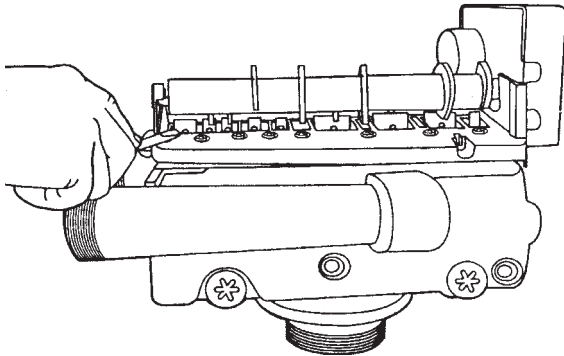

Figure 8
3. Remove cover and with screwdriver, relieve tank pressure by pushing open valve No. 7 (rear flapper) on control as shown (Figure 8).